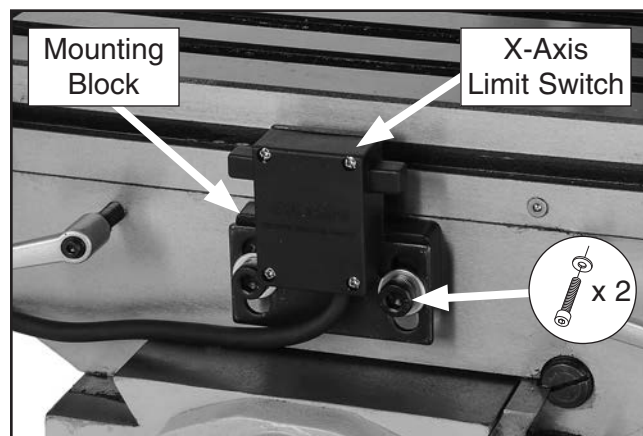

Figure 27. X-axis limit switch installed.
17. Remove factory-installed stop plate, then use its mounting screws to install limit switch mounting block in its place (see **Figure 27**).
18. Install X-axis limit switch to mounting block using (2) included M8-1.25 x 12 cap screws and 8mm flat washers (see **Figure 27**).